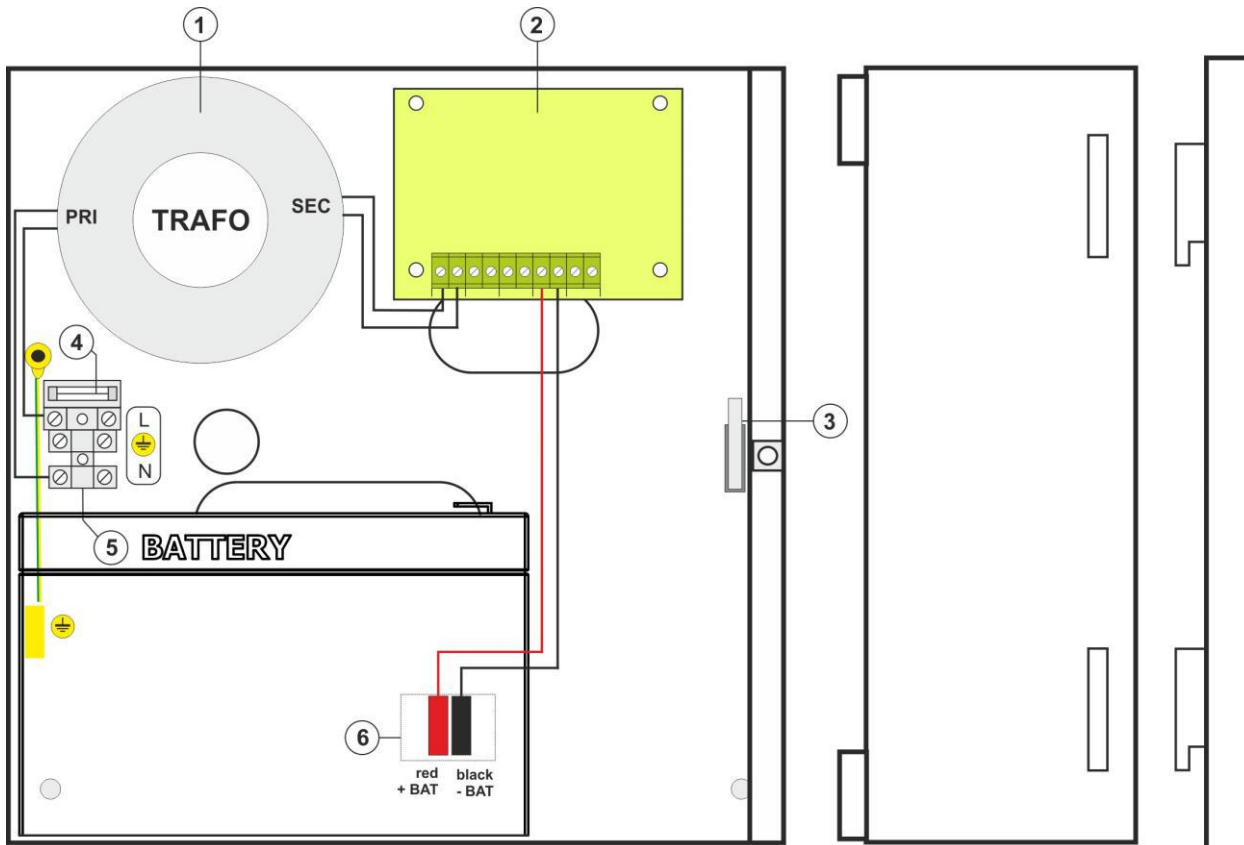
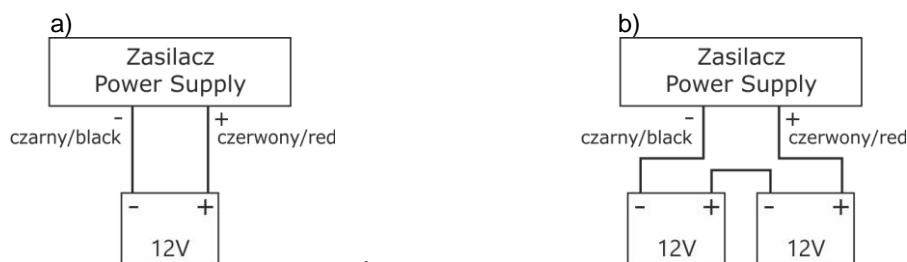

Fig.3. View of PSU.
Fig. 4 Connecting batteries depending on voltage version of power supply:
6. Mount the battery in the battery compartment of the enclosure (Fig. 3). Connect the batteries with the PSU paying special attention to the correct polarity and type of connections (Fig.4):